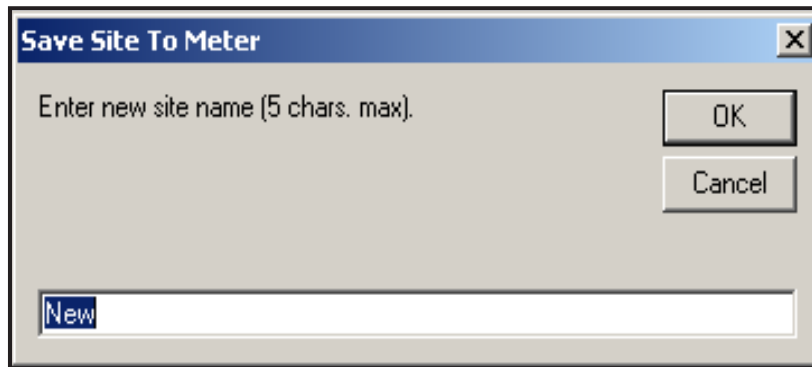

Figure 51: Site Name Entry Window
2. A window opens similar to Figure 51. Enter the desired name, and click [OK].